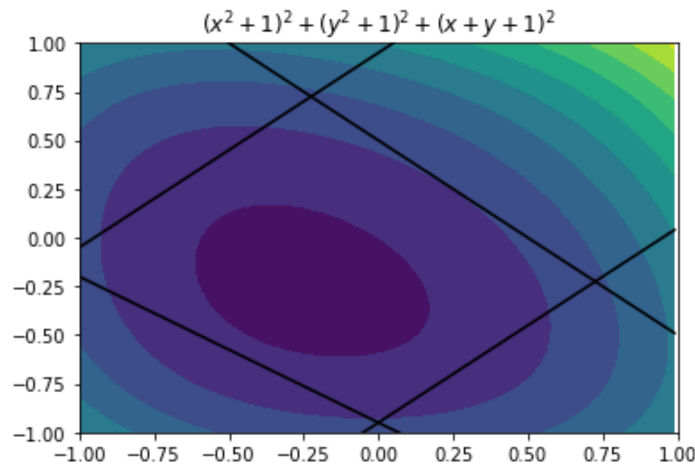

Figure 2: A non-linear function on two decision variables.
With non-linear functions, the optimal (maximum or minimum) value might no longer be at one of the vertices. For instance, let us take as an example the function presented in figure 2.
- *Multimodal function*: As in the example from figure 2, the function might be multimodal and depend on several decision variables, increasing its complexity.